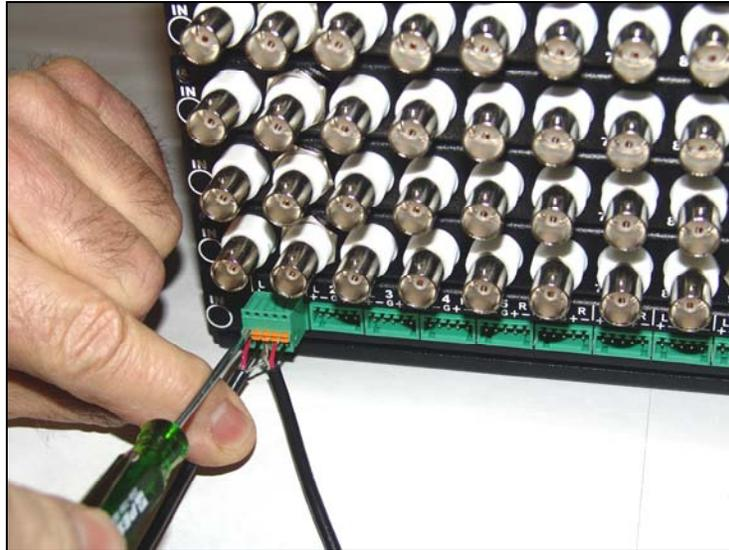

FIGURE 11: Connecting the Audio Cabling
- 4) (See Figure 11.) Secure the connector (useful to free both hands) either into the Premiere Matrix Switcher's corresponding audio receptacle or in a small, bench-type vice. Use a small, blade-type screwdriver (no more than 1/8 inch or 2.5 millimeter wide blade) to indent the spring-loaded tab and then, insert the wire in the appropriate connection hole and release the tab. Repeat for the remaining wires.